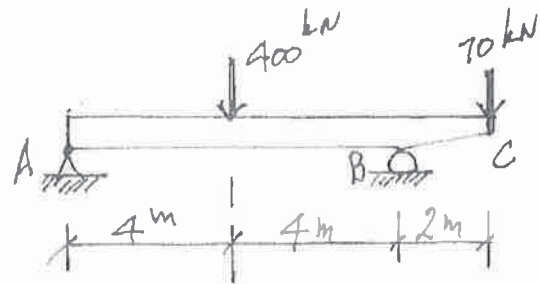

FIG. B2
- B2. A reinforced concrete beam with an overhang, is loaded as shown in Figure B2. Determine the dimensions of its rectangular cross-section and the steel reinforcements to satisfy moment and shear. Take into account the self-weight of the beam (Use $f'_c = 35$ MPa and $f_y = 400$ MPa).